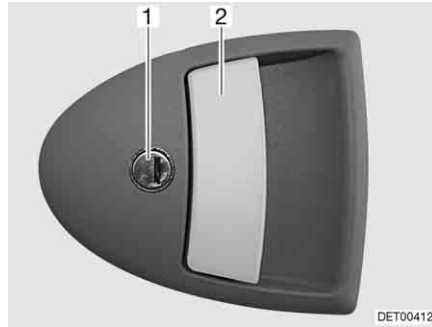

Fig. 59 Door lock of conversion door, outside
- Insert the key into locking cylinder (Fig. 59,1) and turn until the door lock is unlatched.
- Pull on the handle (Fig. 59,2). The door is open.
- Insert the key into locking cylinder (Fig. 59,1) and turn until the door lock is engaged.